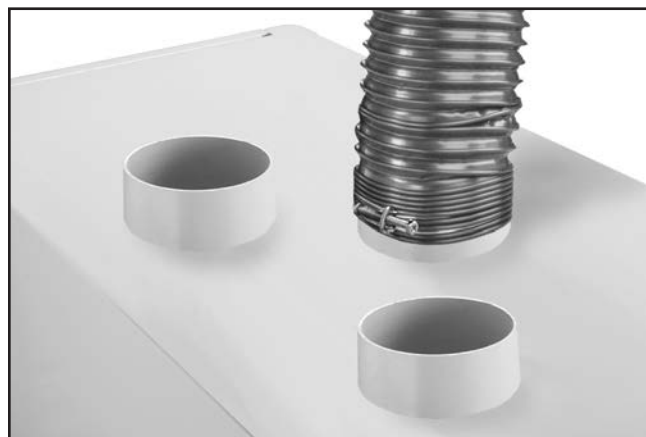

Figure 13. Example of hose attached to port.
1. Using 5" hose clamps, secure hoses from dust collection system to dust ports (see **Figure 13**).